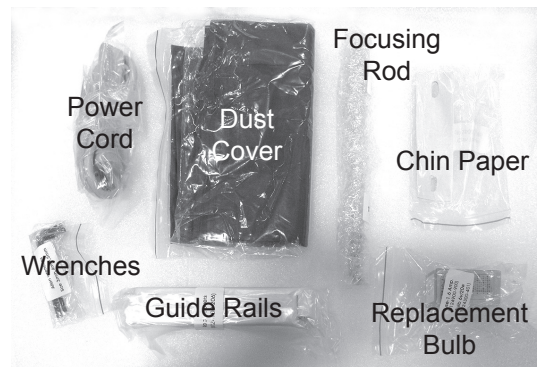

Figure SU-12 Accessories
16. Remove the accessories and store them in an appropriate place so that when they are needed they will be available. Refer to Figure SU-12.